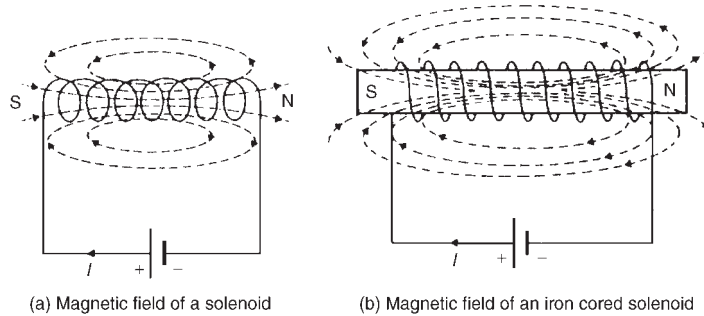

Figure 8.4
A magnetic field set up by a long coil, or **solenoid**, is shown in Figure 8.4(a) and is seen to be similar to that of a bar magnet. If the solenoid is wound on an iron bar, as shown in Figure 8.4(b), an even stronger magnetic field is produced, the iron becoming magnetized and behaving like a permanent magnet.
- (a) **The screw rule** states that if a normal right-hand thread screw is placed along the axis of the solenoid and is screwed in the direction of the current it moves in the direction of the magnetic field **inside** the solenoid. The direction of the magnetic field **inside** the solenoid is from south to north. Thus in Figures 8.4(a) and (b) the north pole is to the right.